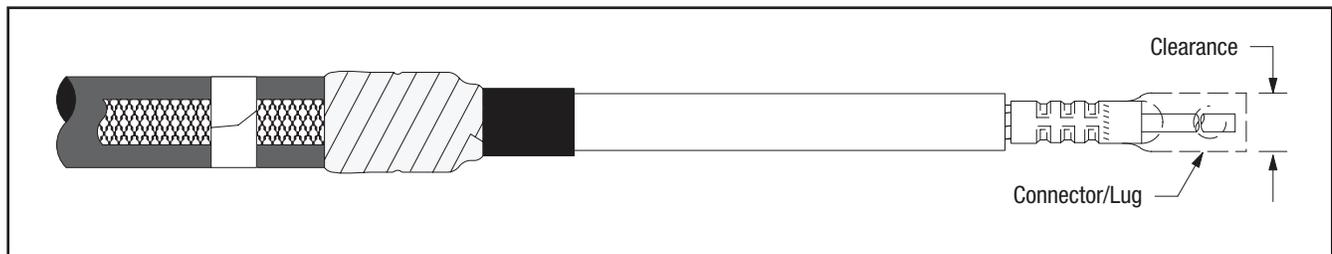

Figure 13
9.1 Check to insure 3M™ Cold Shrink QT-III Silicone Rubber Termination assembly fits over the selected lug or connector. If lug or connector (*Figure 13*) will not fit through the termination core, clean the insulation (*per Step 10.0*) and slide termination on cable before installing lug or connector. **DO NOT REMOVE CORE AT THIS TIME.**